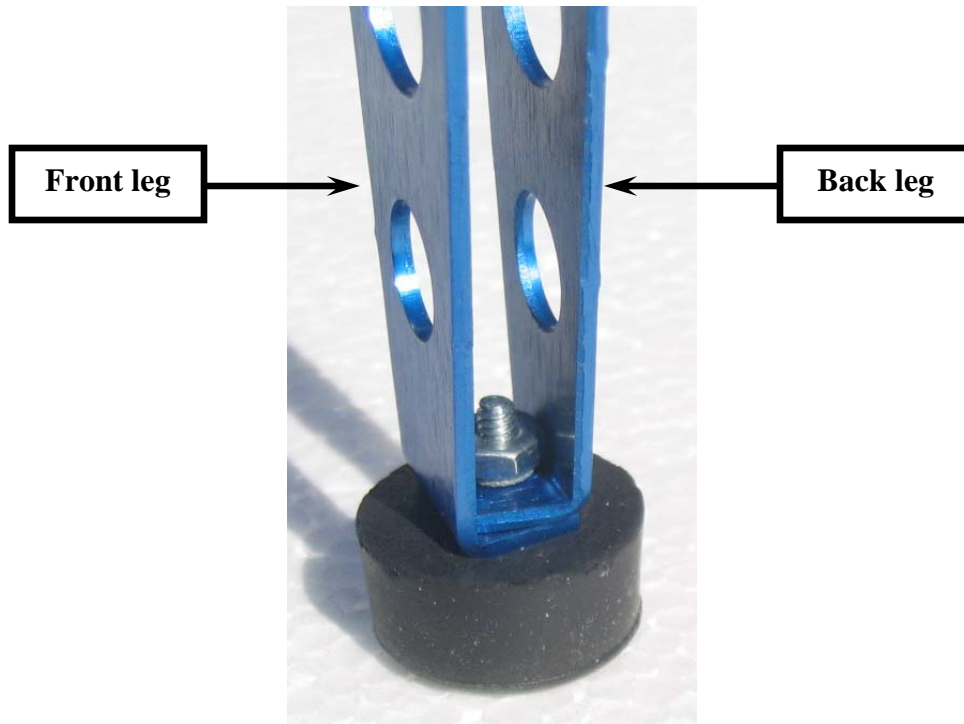

Figure 7
- Using (1) #4- 7/16" screw, lock washer and nut, install the rubber bumper to the front and rear leg assembly as shown in figure 7. Ensure that the back leg is placed on top of the front leg before inserting the #4 – 7/16" screw.